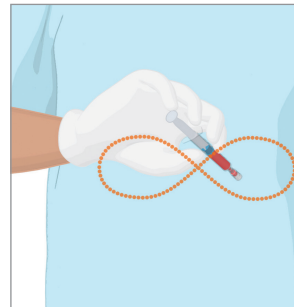

Figure 4.
5. Mix the sample thoroughly to dissolve the heparin in the syringe and minimize clot formation by rotating your wrist back and forth for a minimum of 20 seconds or approximately 8 to 10 times (**Figure 4**). Label the syringe and transport immediately to the blood gas system for analysis. Restart infusion according to institution protocol.
6. According to the CLSI guidelines,² blood gas testing should be completed within 10 minutes and not longer than 30 minutes of drawing the sample. If testing is delayed longer than 30 minutes, samples should be placed in an ice slurry. Always remix the sample immediately prior to the analysis following a two-step process, first rotating your wrist back and forth and then rolling the sample between your hands approximately 10 times (**Figures 4 and 5**).